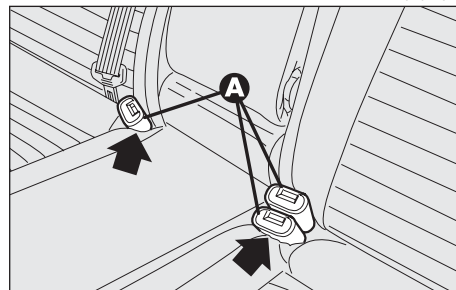

fig. 19
- position the seat belt buckles (**A-fig. 19**) in their housings in the cushion;